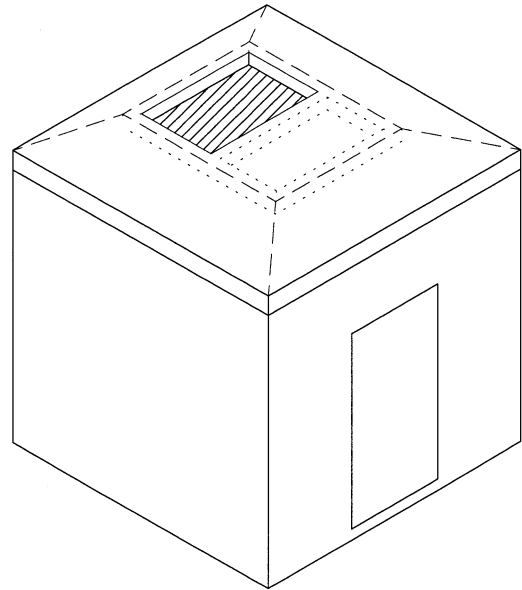

Figure 2. Roof membrane placed over curb.
3. Install the membrane onto the roof of the box and over the curb. Fasten to roof per panel manufacturer's instructions. The membrane material should be slit over the evaporator grill opening the flaps allowed to drape into the hole 2" - 4". (See Figure 2, page 7) Care should be taken during the membrane installation to prevent bunching or folding which could affect the gasket-to-curb sealing or trap rainwater adjacent to the curb.